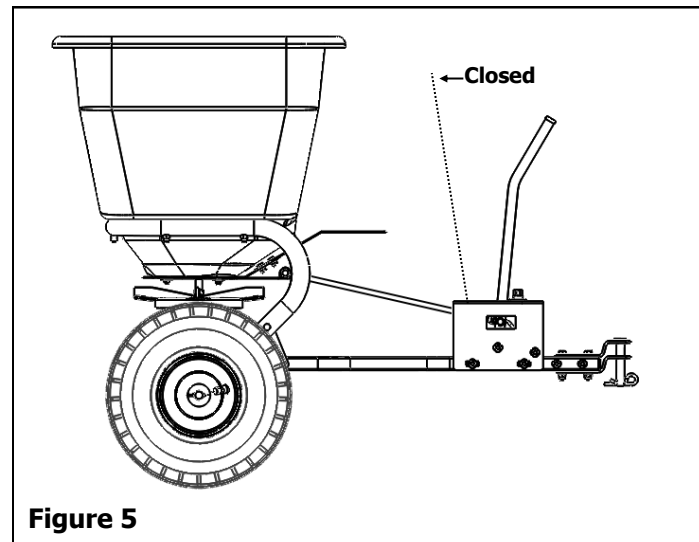

Figure 5
2. Place the Handle in the closed position. Check inside the Hopper to make sure there is no gap between the Slide Plate and the Hopper opening on the bottom. If there is a gap, adjust the Control Housing either forward or back until the gap closes to the edge of the Hopper bottom. Once this is accomplished, tighten the two bolts on the Control Housing to lock the adjustment in place. See Figure 5.